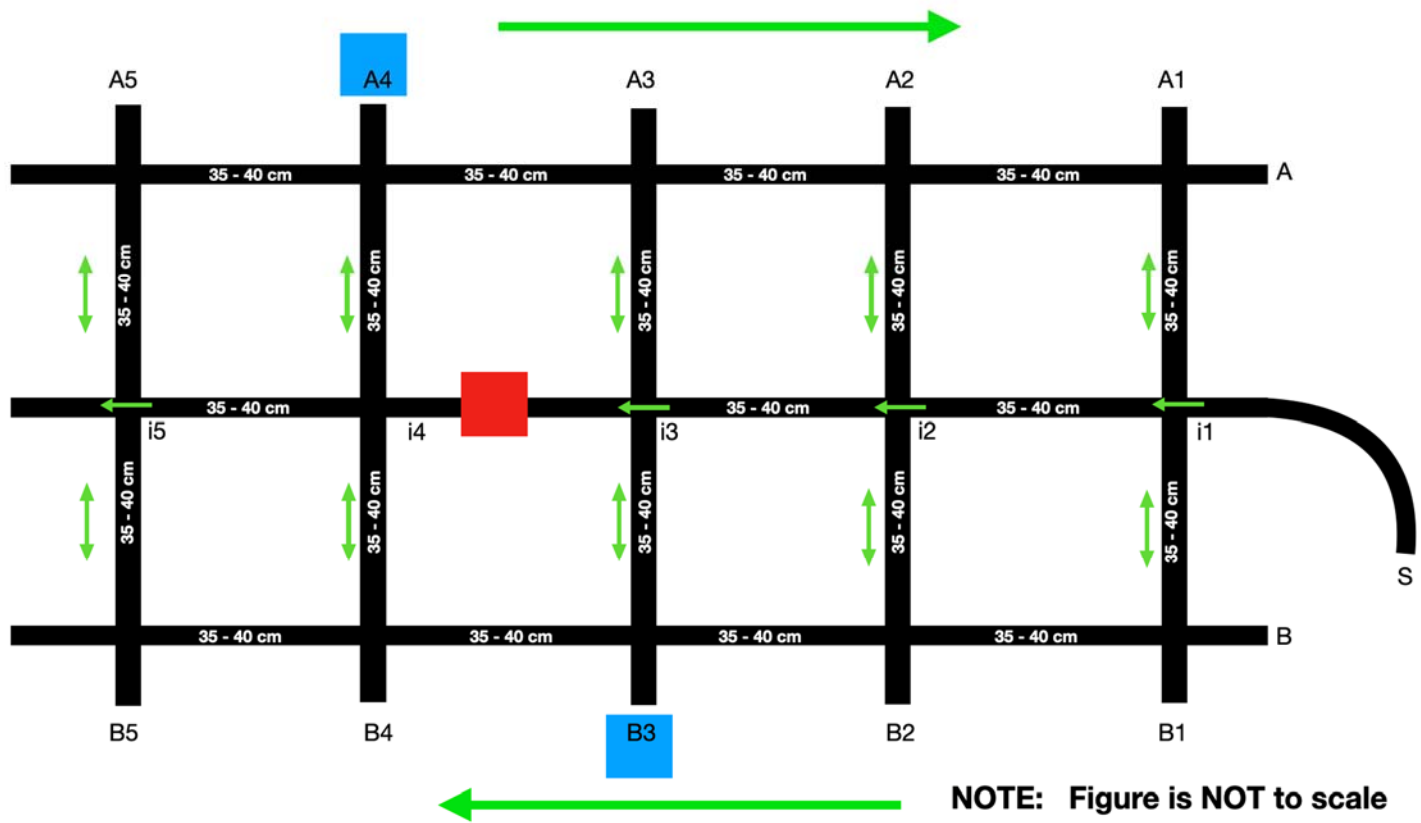

Figure 1: Lanes with a grid-like structure on a factory floor (The arena)
- One or more obstacles may be introduced dynamically while the robot is traversing through the arena. As an example, an obstacle may be introduced while the robot is moving in the center lane, in response the robot must change its course accordingly. In Figure 1, the red box between i3 and i4 depicts an obstacle.